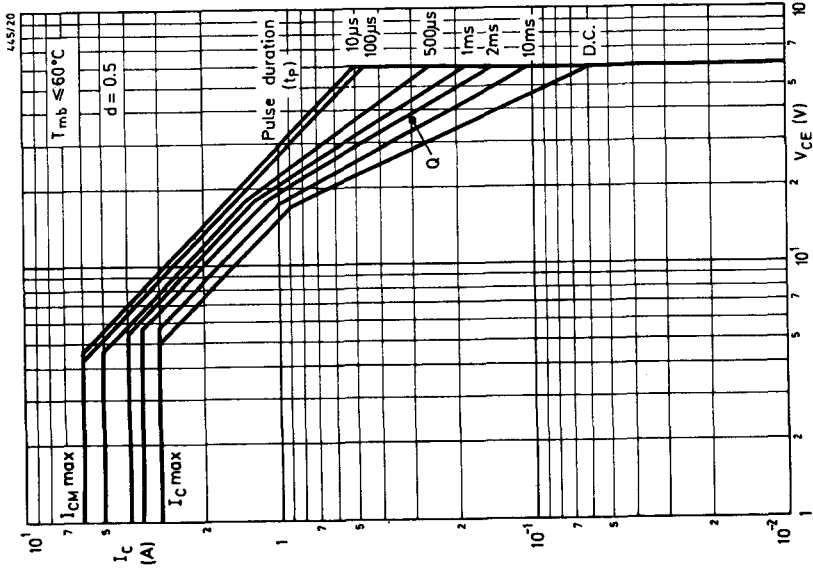

Fig. 5 — Typical SOAR family for $d = 0.5$ (50% duty cycle)
- 7) Plot the point given by the specific I_{CM} and V_{CEM} values, shown as point Q in Fig. 5.
- 1) Using linear interpolation between the 1 and 2ms curves at $d = 0.5$ (Fig. 5) draw a SOAR curve for $t_p = 1.7ms$. If point P is within this area then the conditions are acceptable and the heatsink thermal resistance can be calculated.